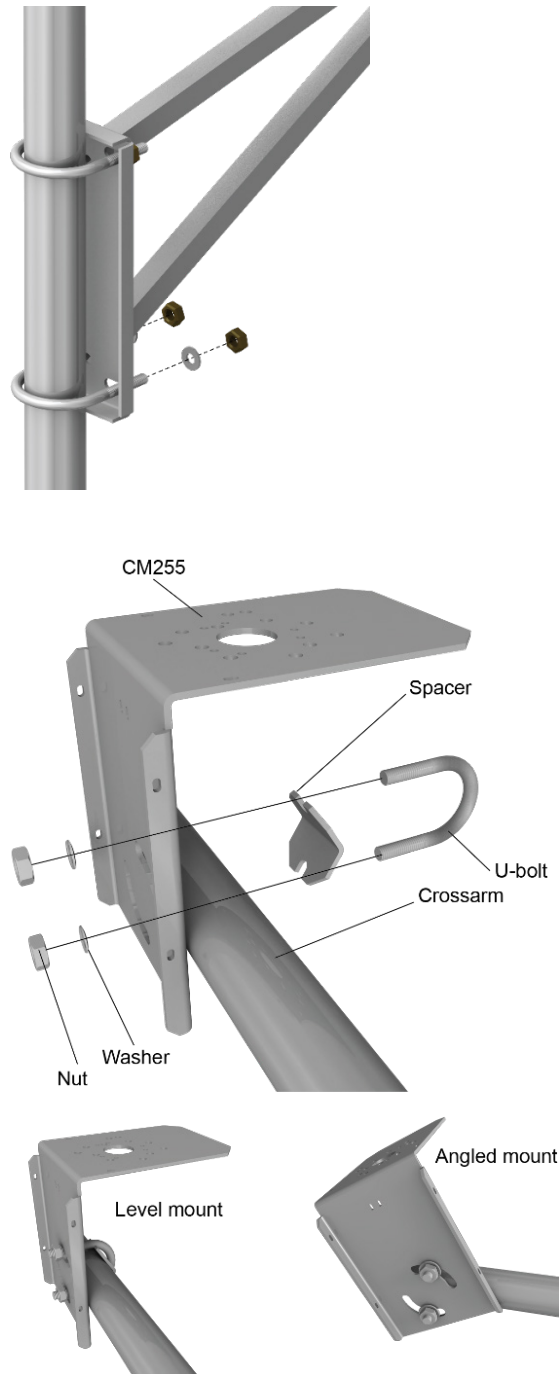

FIGURE 6-3. 015ARM and CM255 showing U-bolt mounting
4. Secure the mounting bracket to the crossarm or the vertical pole using the hardware included with the mounting bracket. The CM225, CM255, CM261, and 015ARM use one or two U-bolts, nuts, flat washers, and lock washers to mount the bracket (FIGURE 6-3).